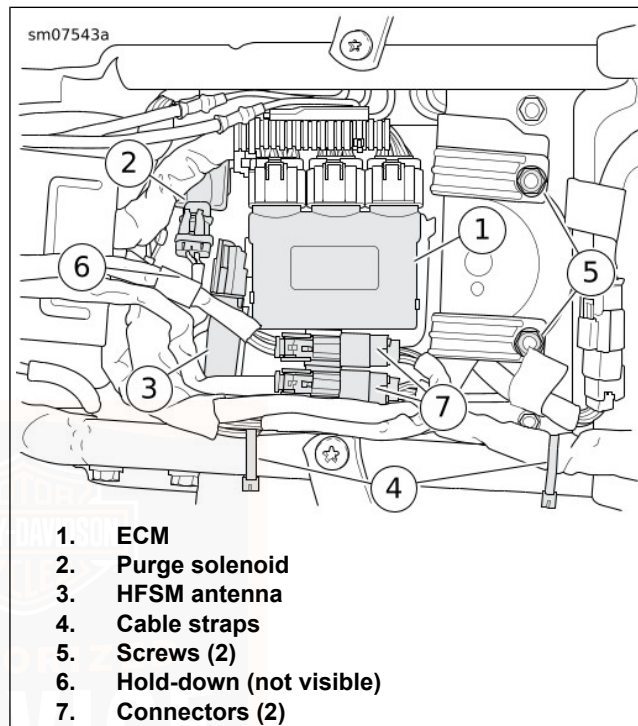

Figure 90. Top Caddy
2. See Figure 90. Release ECM (1) from top caddy. Move out of the way.
3. If present, move purge solenoid (2) forward to release from top caddy.
4. **Models with security system:** Release HFSSM antenna (3) from top caddy and move out of the way.
5. Release connectors (7) from anchors on top caddy.
6. Remove fasteners (5).
7. Cut cable straps (4). Move harnesses to allow more clearance for the top caddy.
7. See Figure 90. Place top caddy into position and engage latch on hold-down bracket.
8. Fasten top caddy to frame crossmember with fasteners (5). Tighten.